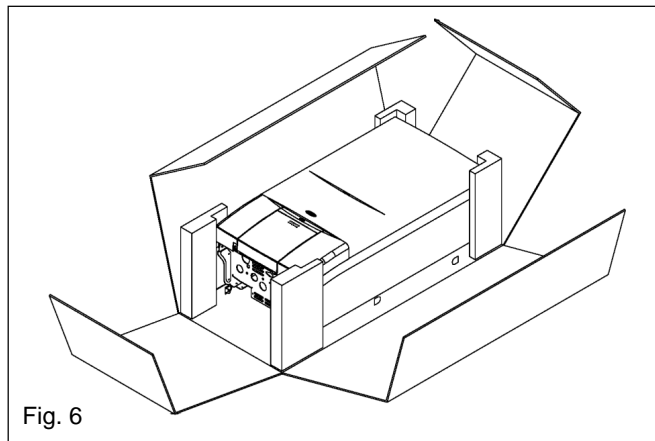

Fig. 6
**4.3 UNPACKING (see fig. 6)**